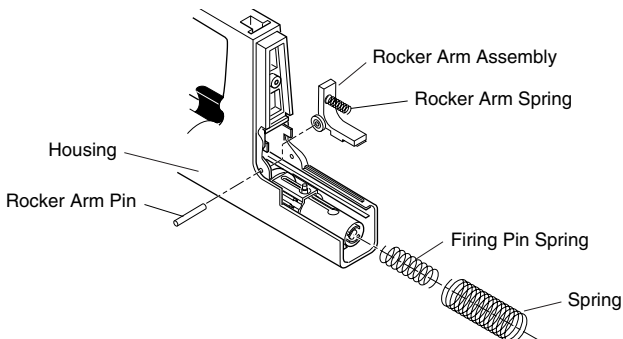

Figure 7 - Removing Rocker Arm Assembly from Housing
1. Remove the larger spring from the outside of the outer liner assembly and the firing pin spring from inside the outer liner assembly (see Figure 7).
3. Remove rocker arm assembly from housing (see Figure 7).